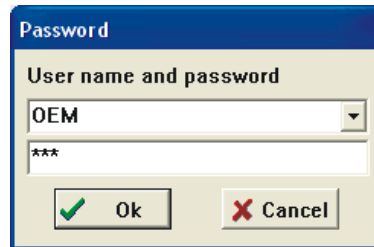

Fig. 13 - Password dialogue window.
2. Select the type of user account from the drop-down menu (for example *OEM*) and enter the password of the account into the text box (see Fig. 13) (12).